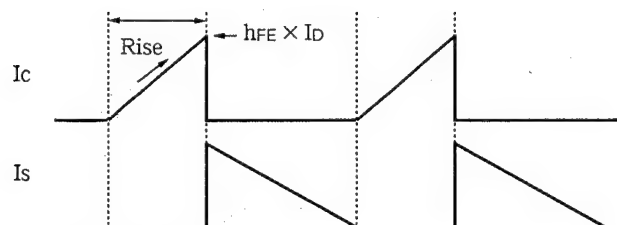

Fig. 14-15 Relations between  $I_c$  and  $I_s$
- ① The input AC power is rectified and input to the switching circuit as  $V_{IN}$ .
- ② In the switching circuit, starting current  $I_1$  flows to the base of the Q651 through the R258 resistor for starting and C715 capacitor. When the starting current  $I_1$  flows, the Q651 is activated, and  $I_c$  starts flowing.
- ③ The  $I_c$  linearly increases as shown in Fig. 14-15. On the second side, a starting power is generated at the winding S to make the current  $I_s'$  flow, but it is blocked by  $D_s$ , and the  $I_s'$  does not flow.
- ④ At the same time the starting power is also generated at the base drive winding B, and the drive current  $I_D$  flows. Then the Q651 is instantaneously set to ON.
- ⑤ The  $I_c$  continues increasing to the point,  $I_c = h_{FE} \times I_D$ , where is the limit of the base drive current  $I_D$ .
- ⑥ When the increasing curve of the  $I_c$  is suppressed, counter electromotive force is generated on the base drive winding B. The  $V_{BE}$  of the Q651 is drastically biased invertedly by this counter electromotive force and the Q651 is instantaneously set to OFF.
- ⑦ At the same time, starting power is generated in the direction reversed in step ③ on the winding S of the second side. The  $I_s$  flows by this counter electromotive force. While the  $I_s$  is flowing, starting power is generated in the direction which is biased reversely between base and emitter of the Q651 on the base drive winding B.
- ⑧ When the starting power of the winding S is lost and the  $I_s$  does not flow, the starting power of the base drive winding B is also lost. Then the current  $I_1$  flows, and the operation of step ② and after will be repeated, and the switching operation will continue. (Once started, the voltage is induced on the base drive coil by the interaction of coils of the transformer and the Q651 is set to ON again. Therefore switching will continue even if the R258, C715, D659, C721 and R266 are removed.)
When the change occurs on 135V on the output side, the change is amplified by the Q662, and input to a photocoupler (IC651) as  $I_a$ . In this photocoupler, a charging section and a non-charging section are coupled unelectricaly so that GND of both sections are not connected. The error output sent by the IC651 photocoupler is transmitted to the Q652 and Q653 pulse width control circuit. In this circuit, the pulse width of the  $I_c$  shown in Fig. 14-15 is changed so that the change of 135V is reduced.